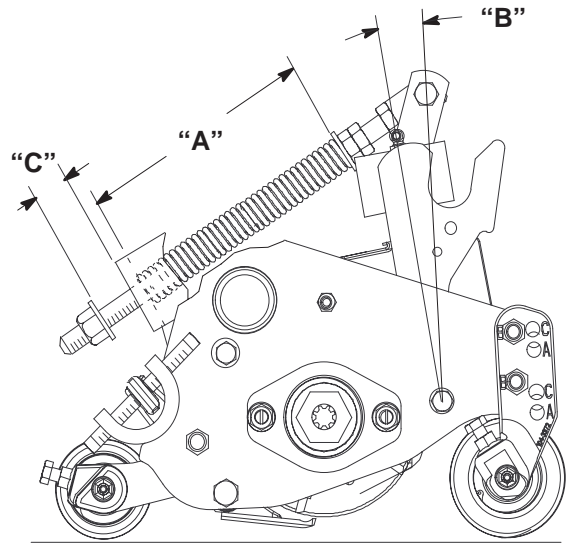

Figure 15
The Turf Compensation Spring (Fig. 15), connecting carrier frame to cutting unit, controls the amount of fore-aft rotation available for the cutting unit
1. Tighten lock nut on rear of spring rod until the gap (C) between rear of spring bracket and front of washer is 1.25" (32 mm) (Fig. 15).
2. Tighten hex nuts on front end of spring rod until the compressed length (A) of spring is 6.25 (159 mm) (Fig. 15).